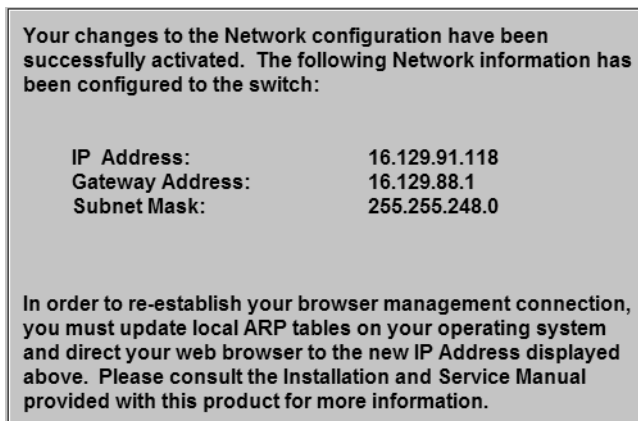

Figure 20: Network configuration changes activated
2. Click **Activate** to save the information. The following message box displays (Figure 20).